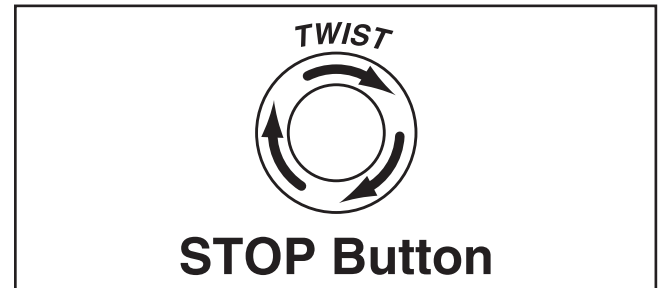

Figure 13. Resetting the switch.
4. Push the OFF button in, then twist it clockwise so it pops out. When the OFF button pops out, the switch is reset and ready for operation (see **Figure 13**).